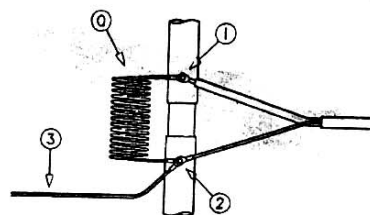
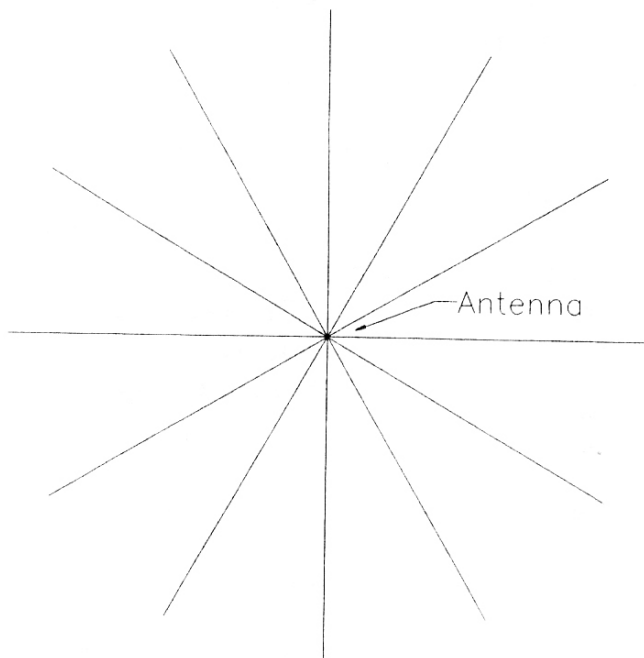

Figure 3
Figure 2
Ideally the antenna should be installed 30 ft (9.1 m) from any structure as shown in figure 2. In most cases this will not be practical and an alternative method such as the one shown in figure 3 may be used.
5. Fan out radials as shown in figures 2 or 3. Make sure that the radials are as equally spaced as possible.
Ideally, radials should be equally spaced as in figure 2 but in most cases they will need to be bent around structures and other obstacles as in figure 3. Make sure that you make your bends no sharper than 90° and as gradual as possible.